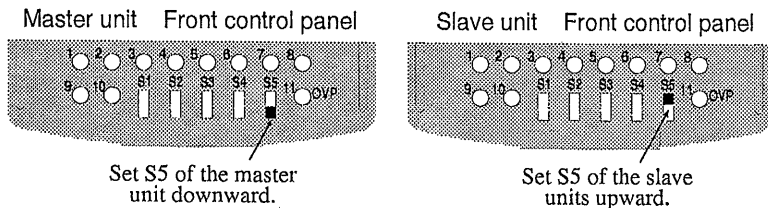

Fig. 3-8 Control switch presetting for master-slave-control parallel operation
- ① Turn off the OUTPUT switch of each unit.
- ② Turn off the POWER switch of each unit.
- ③ Determine the master unit.
- ④ Set the control switch S5 of the master unit and slave units to the positions shown in Fig. 3-8.